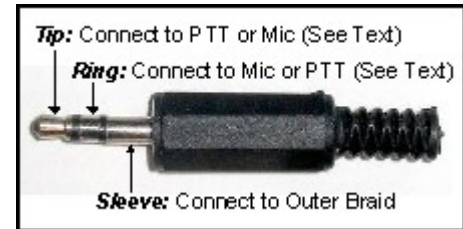

Fig 2: Microphone Plug Connections
Connect the Sleeve to the outer braid of the coaxial microphone cable (see Fig 2).
- The microphone may be connected to either the tip or the ring (see Fig 2).